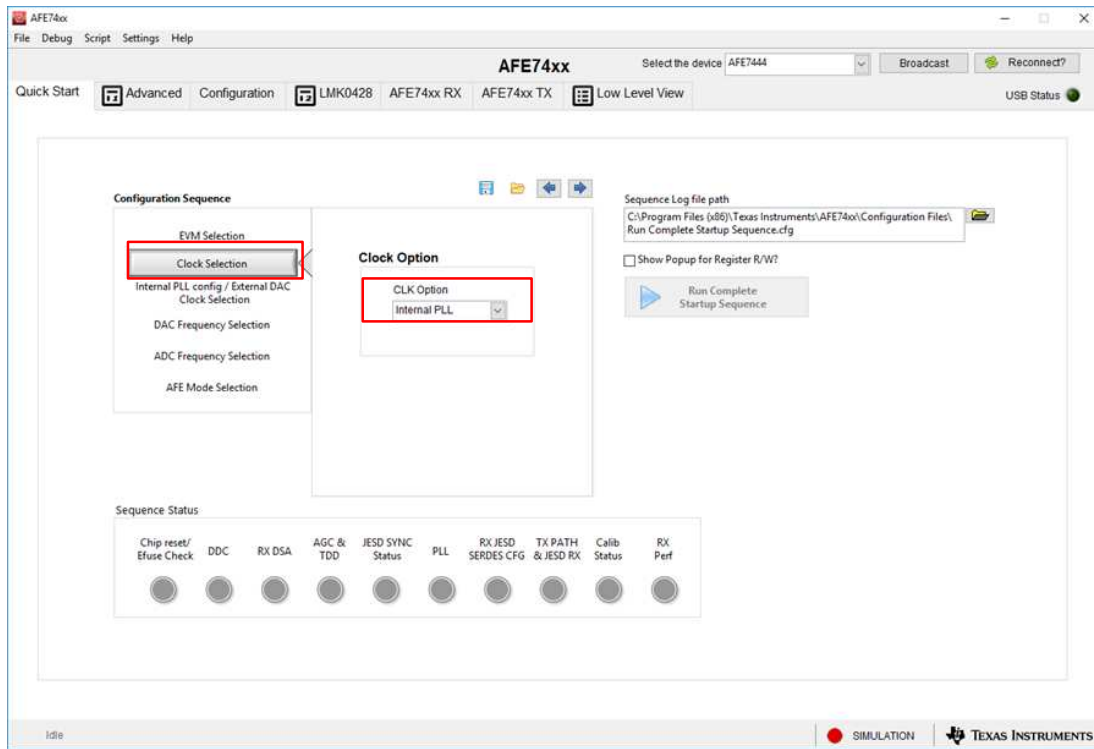

Figure 3. Clock Selection
2. Click the *Clock Selection* button, and select *Internal PLL*, as shown in Figure 3.